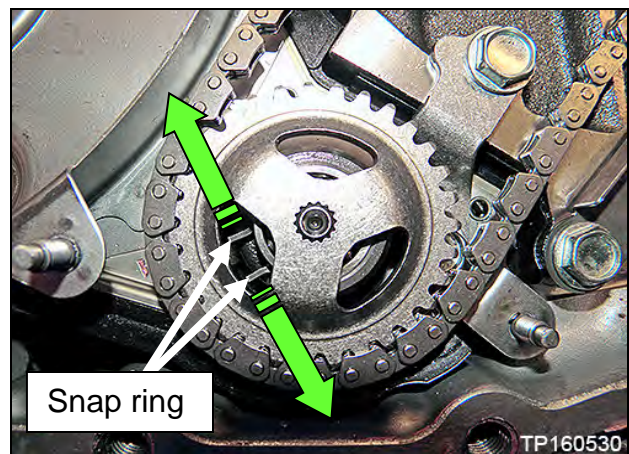

Figure 13C
- Spread the snap ring to remove sprocket (Figure 13C).